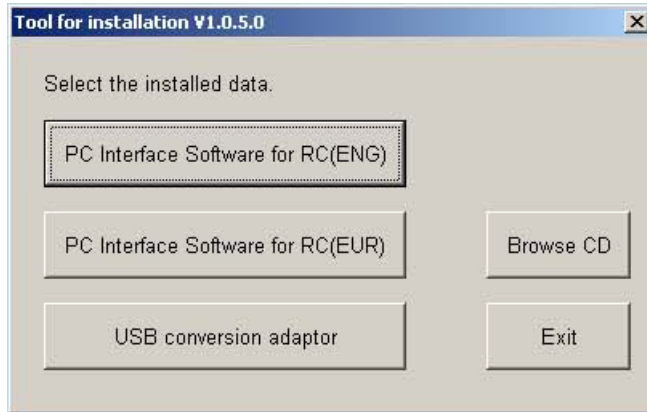

Fig. 1.12 Installed Data Selection Window
- [2] The installed data selection window (Fig. 1.12) will be displayed.
- [6] Once the complete window (Fig. 1.16) has been displayed, click **OK**. The complete window (Fig. 1.16) will disappear. Then, click **Cancel** on the window to specify the folder of the copy destination (Fig. 1.13). The window to specify the folder of the copy destination (Fig. 1.13) will disappear. Finally, click **Exit** on the data selection window (Fig. 1.12). The data selection window (Fig. 1.12) will disappear.